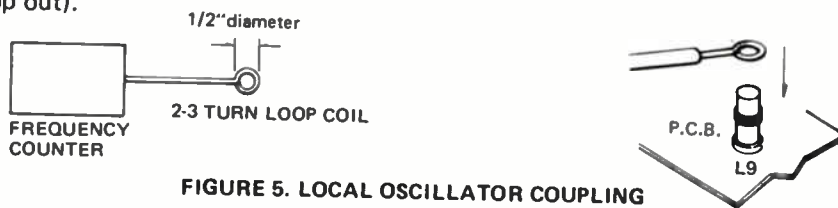

FIGURE 5. LOCAL OSCILLATOR COUPLING
Step 1: Couple the frequency Counter through a pickup coil to oscillator coil L9. Refer to Figure 5.